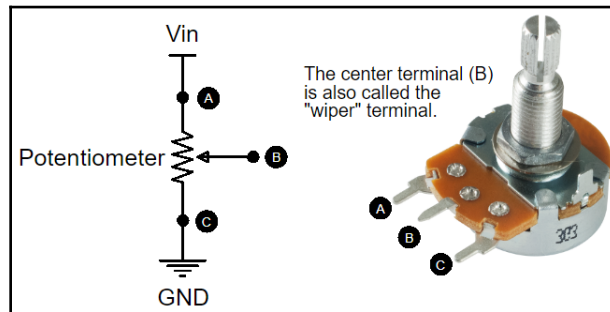

Figure 6.9 – A potentiometer is a voltage divider
1. Place the 10k Ω potentiometer on your breadboard. You'll notice that I have marked Terminals A, B, and C so that they match the labeling shown in *Figure 6.9*.